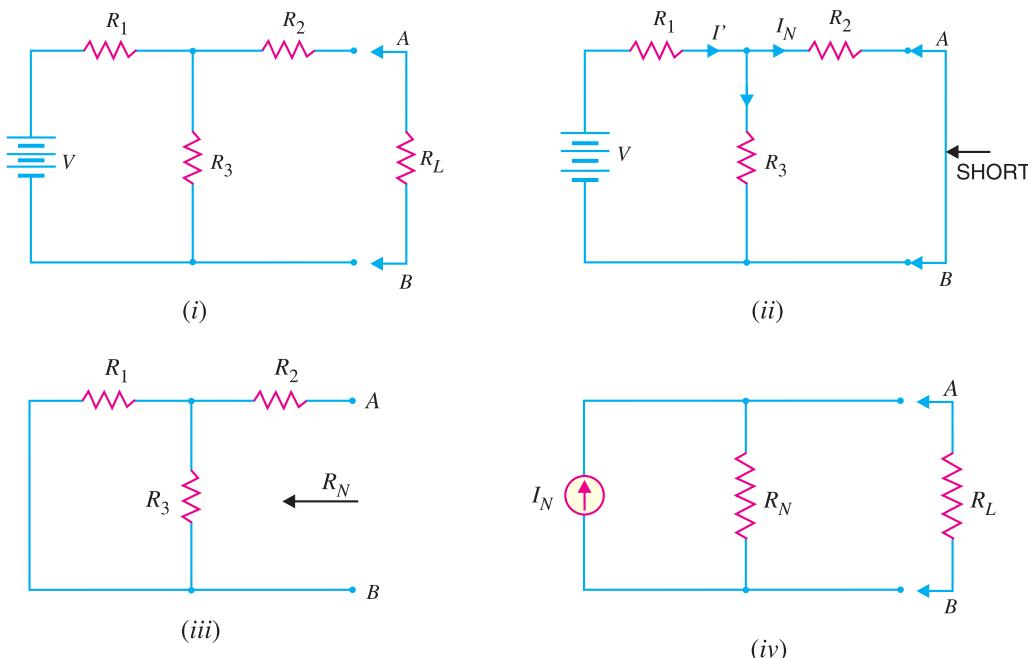

Fig. 1.39
**Illustration.** Fig. 1.39 illustrates the application of Norton's theorem. As far as circuit behind terminals AB is concerned [See Fig. 1.39 (i)], it can be replaced by a current source of output  $I_N$  in parallel with a resistance  $R_N$  as shown in Fig. 1.39 (iv). The output  $I_N$  of the current generator is equal to the current that would flow through AB when terminals A and B are short-circuited as shown in Fig. 1.39 (ii). The load  $R'$  on the source when terminals AB are short-circuited is given by :
Short-circuit current,  $I_N$  = Current in  $R_2$  in Fig. 1.39 (ii)
To find  $R_N$ , remove the load  $R_L$  and replace the voltage source by a short circuit because its resistance is assumed zero [See Fig. 1.39 (iii)].
$\therefore R_N$  = Resistance at terminals AB in Fig. 1.39 (iii).
Thus the values of  $I_N$  and  $R_N$  are known. The Norton equivalent circuit will be as shown in Fig. 1.39 (iv).